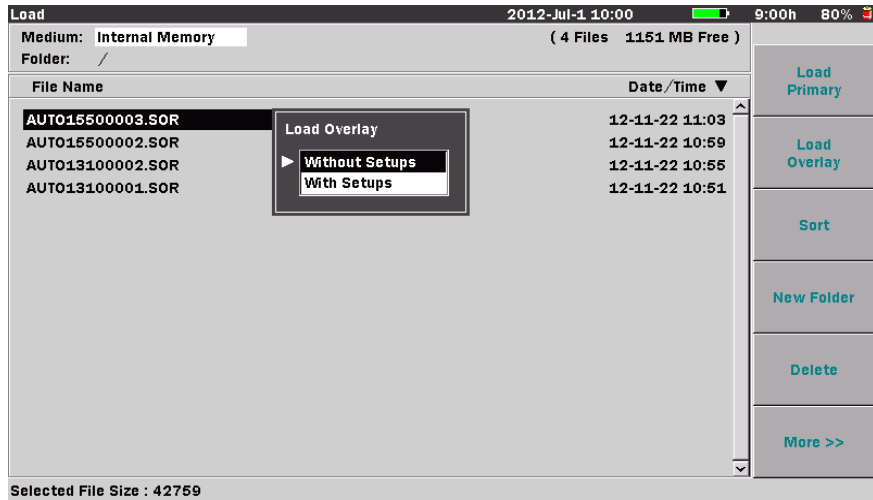

Figure 4-36: Load Overlay Dialog
3. Select **Load Overlay** (**f2**), the Load Overlay dialog appears. See Figure 4-36 on page 4-91.